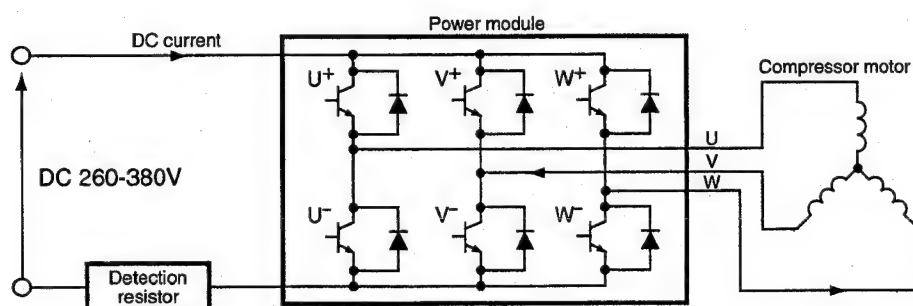

Fig. 8-9
(1) Turns on the power module's U+ and V- transistors so the current flows to the motor windings as shown in Fig8-9.